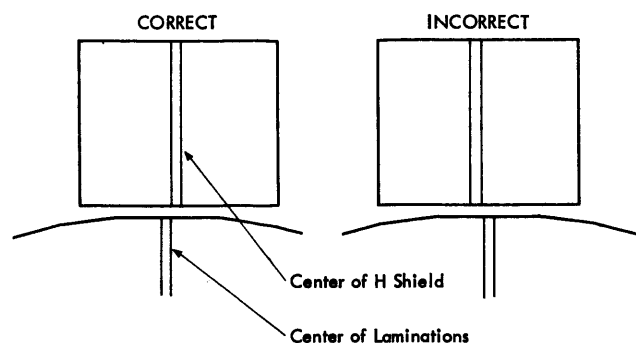

Figure 26. H-Shield Adjustment
6. When a tape unit is adjusted for minimum feed-through, excessive temporary write checks may occur because of the position of the H shield. If the center of the H shield is located to the left of the center laminations of the head (Figure 26), extra bits can be introduced into TAU register B. This shows up as a bit pickup and gives a compare error, causing the temporary write check. To correct this condition, the H